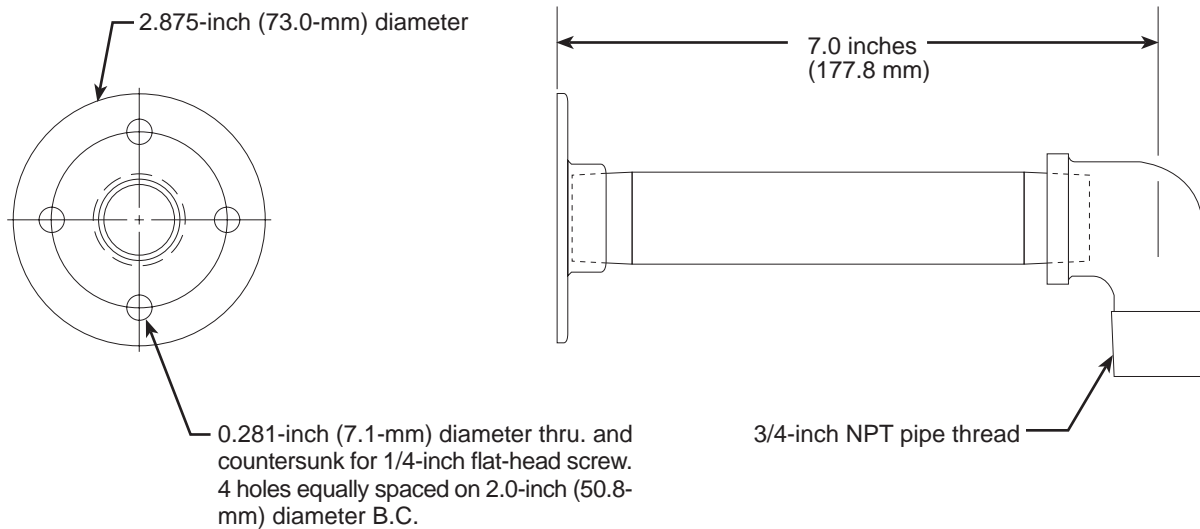
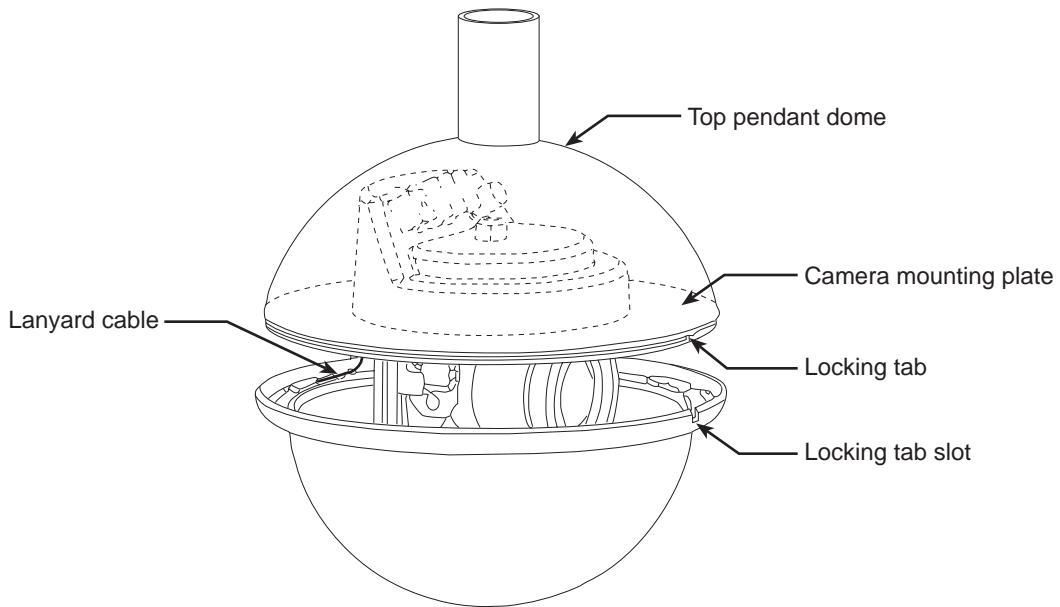

Figure 11. Wall mount diagram
Figure 12. Dome camera (wall-mounting configuration)
1. Assemble and install a wall mount using figure 11 as a reference. The top pendant dome (see figure 12) requires a 3/4-inch NPT or straight pipe thread connection.